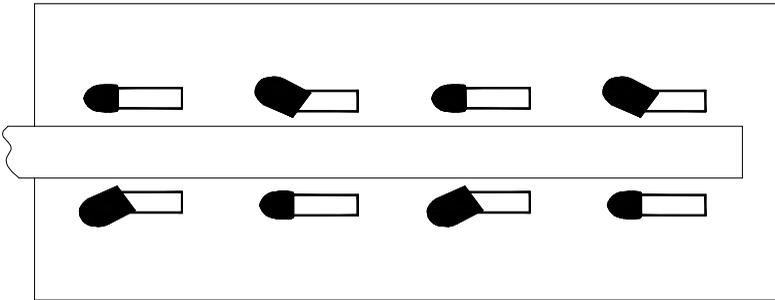

Fig. 11c
- Remove any worn grinding tools and replace them with new ones, taking care of the correct direction (Fig. 11c).